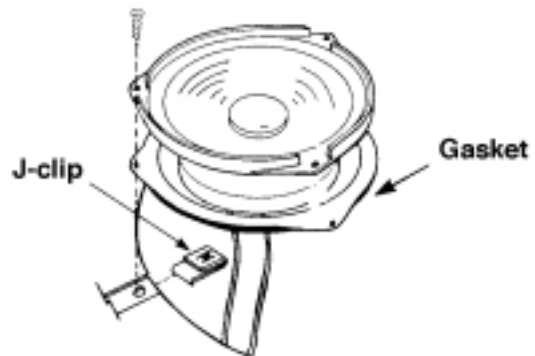

Figure 3. 102 Surface-Mount Driver Replacement
4.3 Secure the driver to the J-clips with the three screws. Do not overtighten. (See Figure 3)